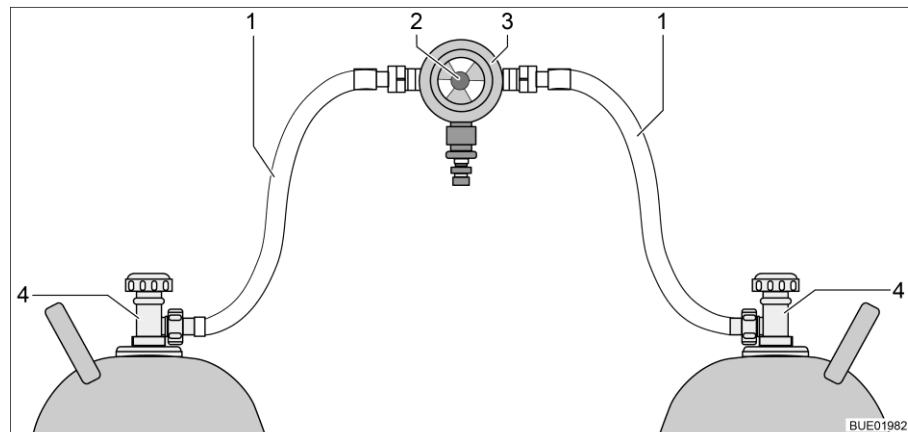
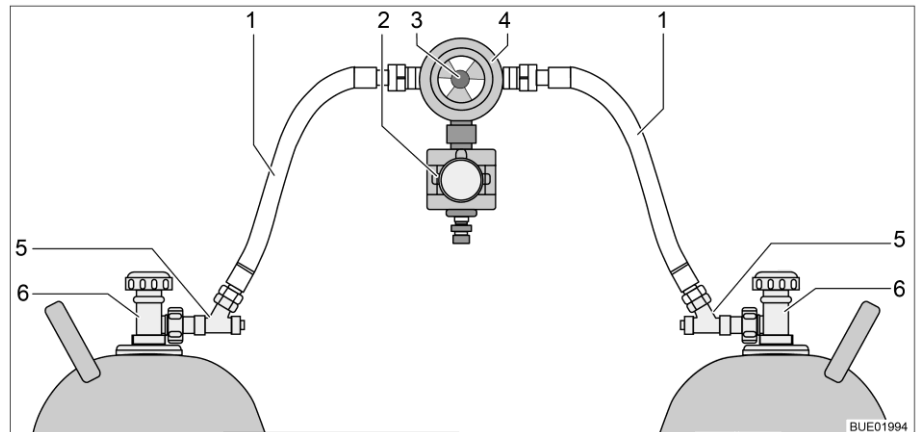

Fig. 127 Gas bottle switching facility
Fig. 128 Gas bottle switching facility with CPU
The gas bottle switching facility consists of a combined gas pressure regulator with reversing valve and indicator (Fig. 127,3). The gas bottle switching facility is installed between the two gas tubes (Fig. 127,1).
The gas bottle switching facility consists of a combined gas pressure regulator with reversing valve and indicator (Fig. 128,4), and an electrovalve (Fig. 128,2). The electrovalve blocks the gas supply to the vehicle in the event of a full braking, an accident, or an unusually great inclined position. The gas bottle switching facility is installed between the two gas tubes (Fig. 128,1) with hose break guards (Fig. 128,5).
Use the knob (Fig. 127,2 or Fig. 128,3) on the gas bottle switching facility to select which of the gas bottles is to be used as a primary bottle and which is to be used as a reserve bottle.
Only the electrical functions can be switched at the operating unit (Fig. 129). The regulator taps on the gas bottles (Fig. 127,4 or Fig. 128,6) must be opened and closed manually.
- Open the regulator taps of the gas bottles (Fig. 127,4 or Fig. 128,6).
- Press the hose break guards (Fig. 128,5) successively for 10 seconds.
- Use the knob (Fig. 127,2 or Fig. 128,3) on the switching facility to select the gas bottle which is to be the primary source of gas (primary bottle). Always turn the knob as far as it will go.
- Close the regulator taps of the gas bottles (Fig. 127,4 or Fig. 128,6).